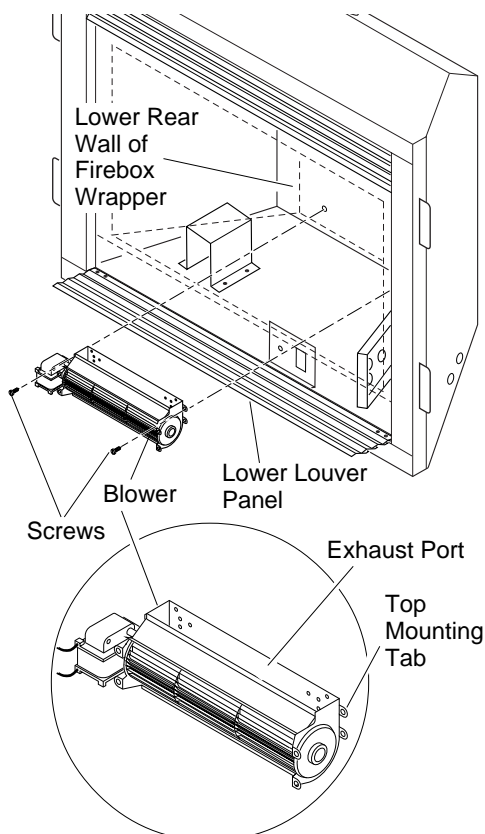

Figure 30 - Mounting Blower to Firebox
IMPORTANT: For clarity, gas valve assembly and grate/burner assembly are not shown in Figures 30 through 33, page 17. They will, however, be in your fireplace when you are installing the blower. Also for clarity the firebox is shown with dotted lines.
2. Place the blower against the lower rear wall of firebox outer wrapper with the exhaust port directed upward. Align the holes in the top mounting tabs of blower with holes in wall of wrapper (see Figure 30, page 17). Using the two screws provided, mount blower and tighten screws securely.